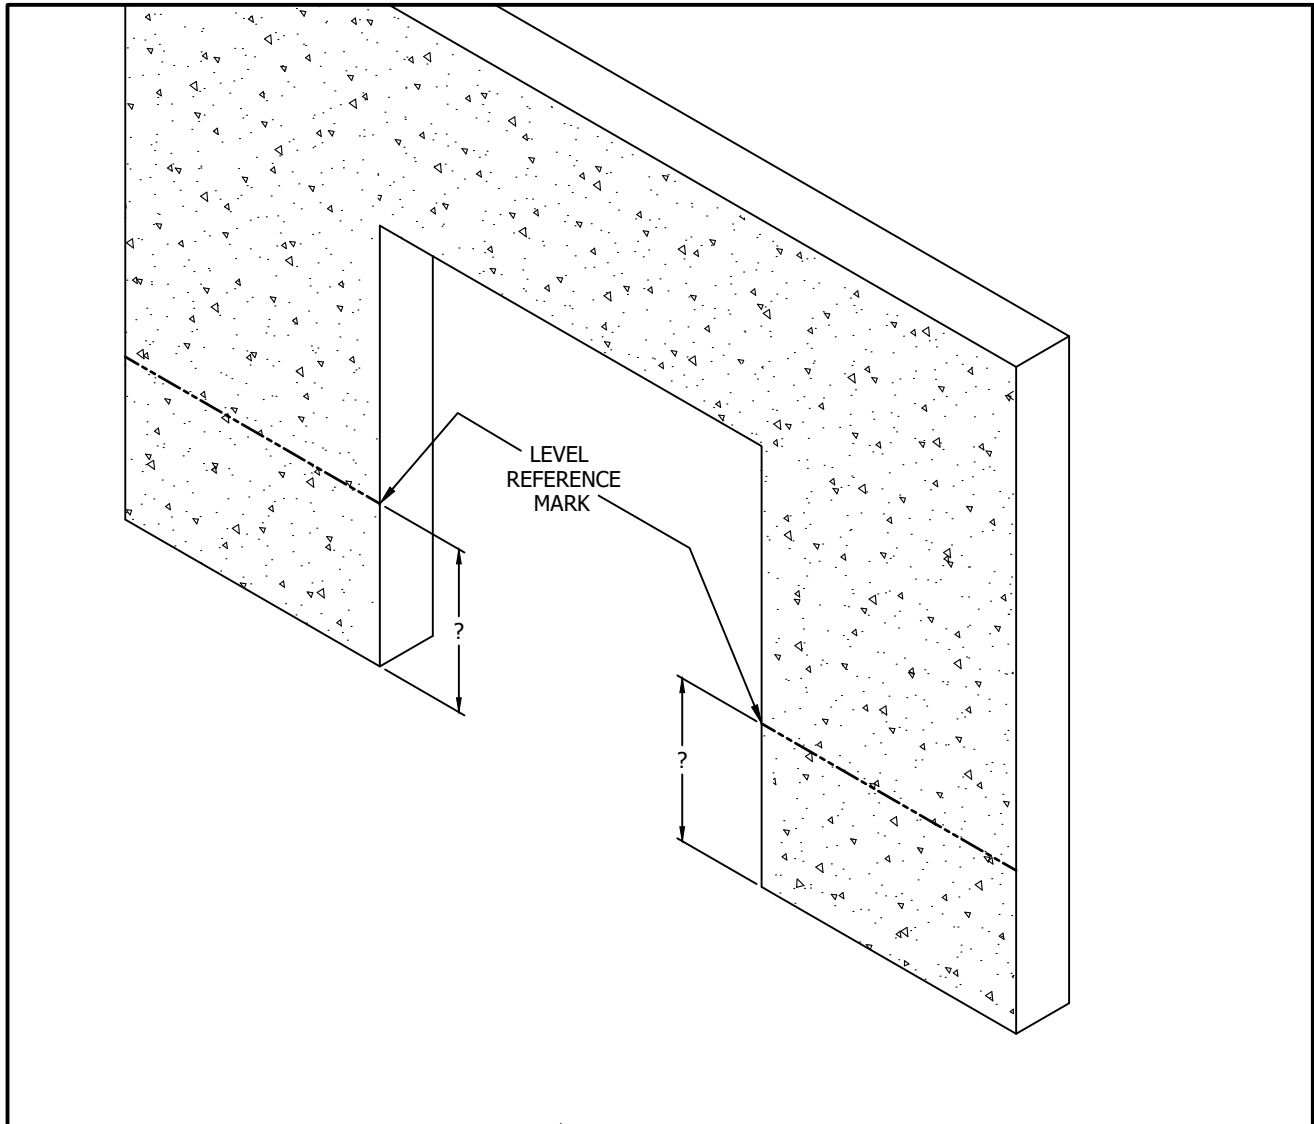

FIGURE 6
- a. Create level elevation marks at left and right jamb faces using a level reference device or survey instrument as shown in Figure 6.
- ✓ This is an upward expanding fire door. Guide angles are designed to be set upon the floor unless one angle requires the use of steel shims at the floor level to create level guide elevations as shown in Figure 6.